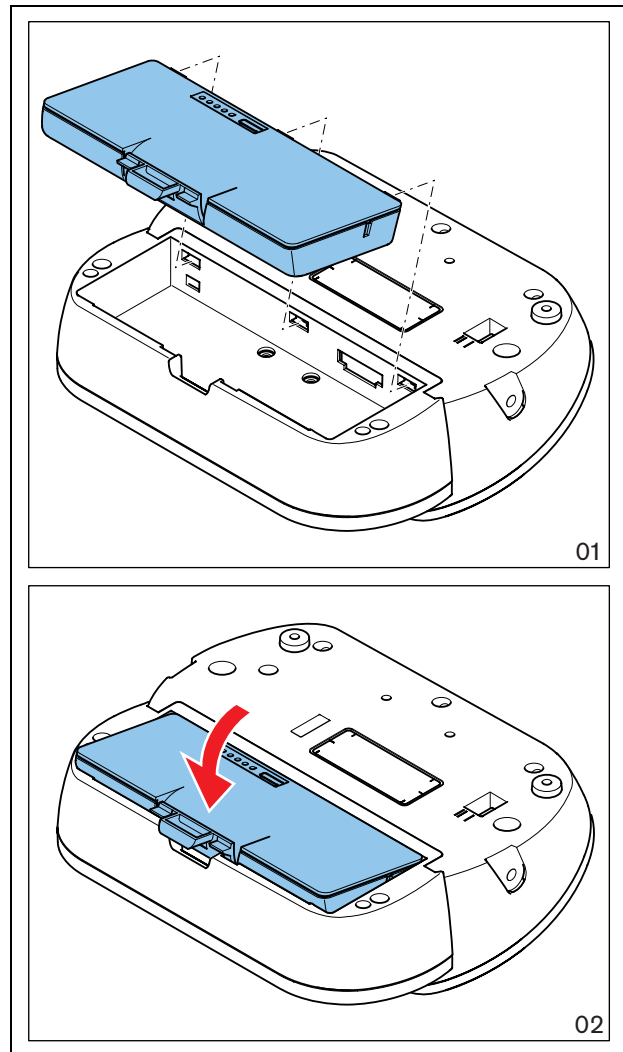

figure 3.7: Inserting the battery pack
- 2 Insert the battery pack into the wireless discussion unit (see figure 3.7).